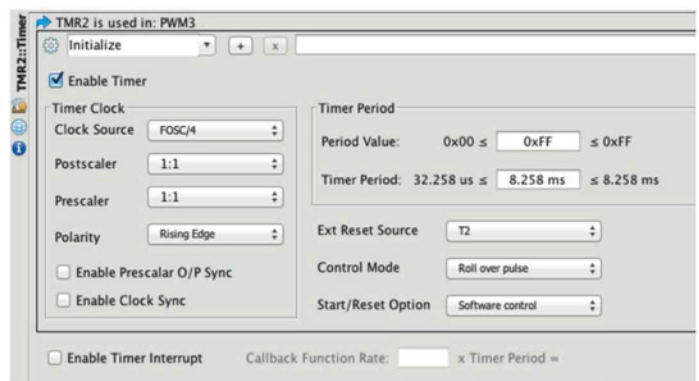

Figure 5: TMR2 configuration window
Clicking on TMR2 (see Figure 5), we are once more presented with a number of sensible default values, including the period value already set to 0xFF (255).